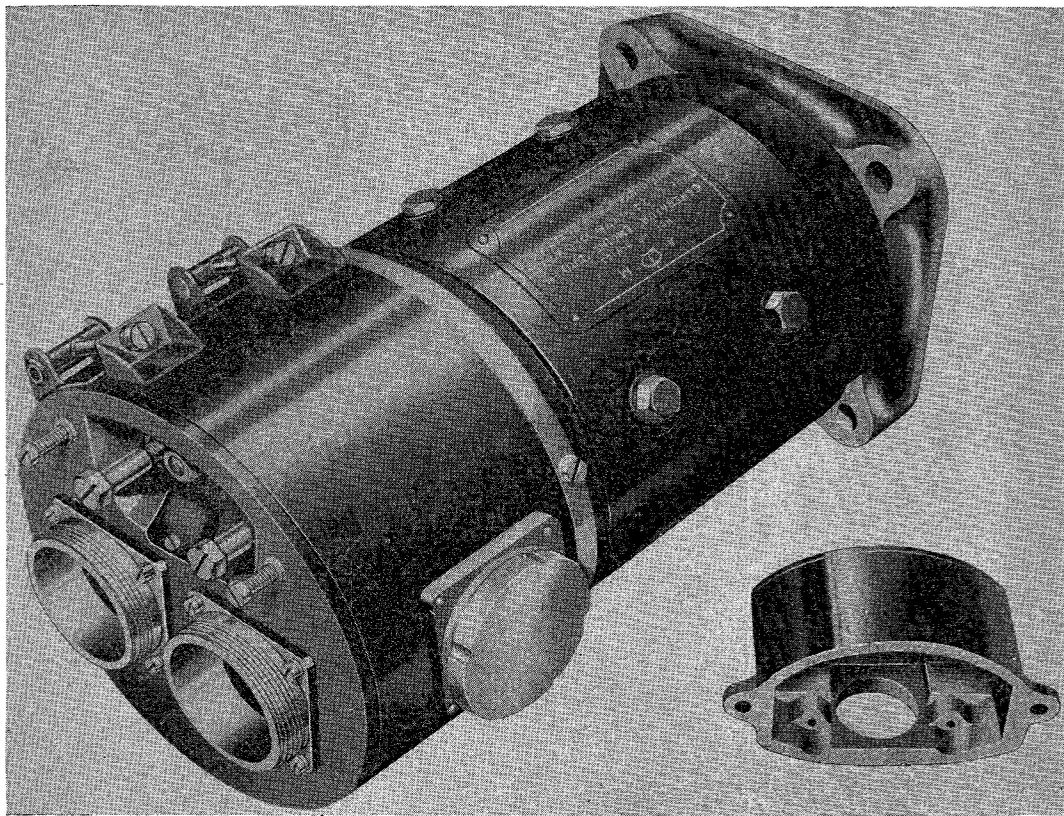

Fig. 1. External view of generator
2. The generator (*fig. 1*), is of orthodox construction, having a four-pole shunt field system and an armature mounted in grease lubricated ball bearings, one of which is mounted in each end frame.